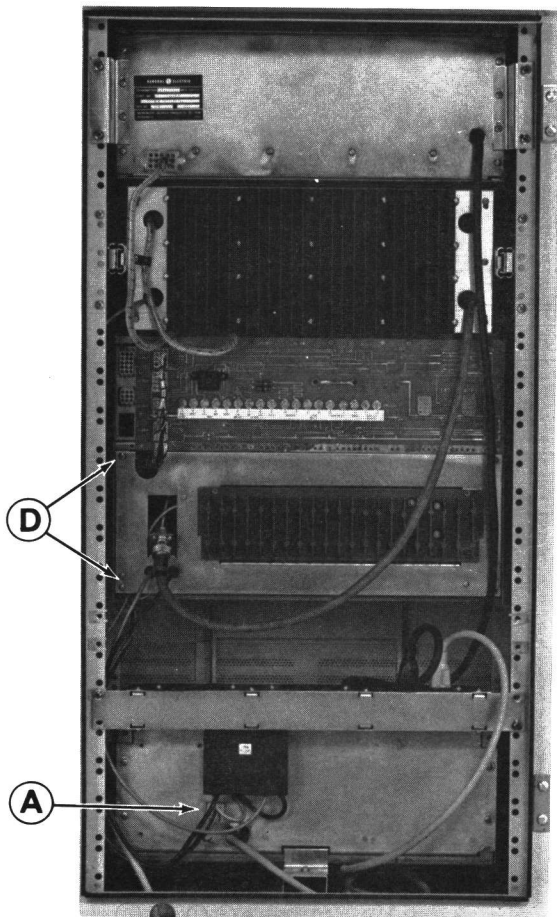

Figure 3 - Access to Driver, Rear View
1. Remove the red and black power cables (A) leading to the driver from the fuse block at the station power supply. See Figure 3.